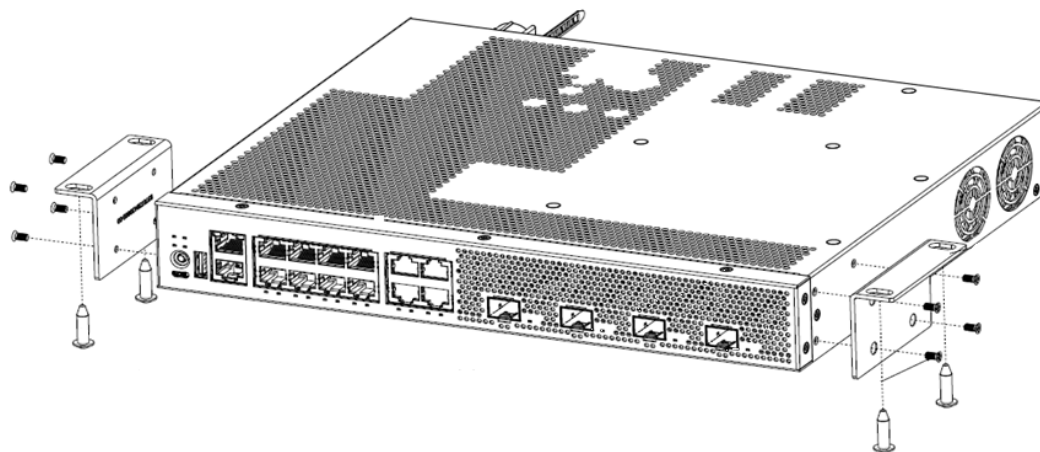

Figure 44: Under the Table Mount: Attaching a switch under a table
4. Using rack mount screws, attach a mounting ear to the left side of the switch, at the front end. Figure 44 shows the attachment of the screws.